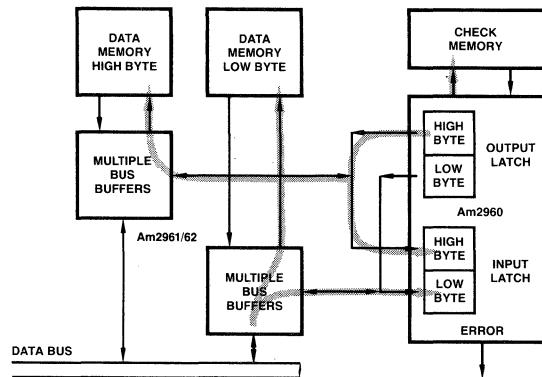

Figure 14. Byte Write, Phase 2: Insert the New Byte, Generate Checks and Write Into Memory
- Insert the byte to be written into the data word (Figure 14)
- Generate new check bits for the entire data word (Figure 14)
- Store the data word back into memory (Figure 14)